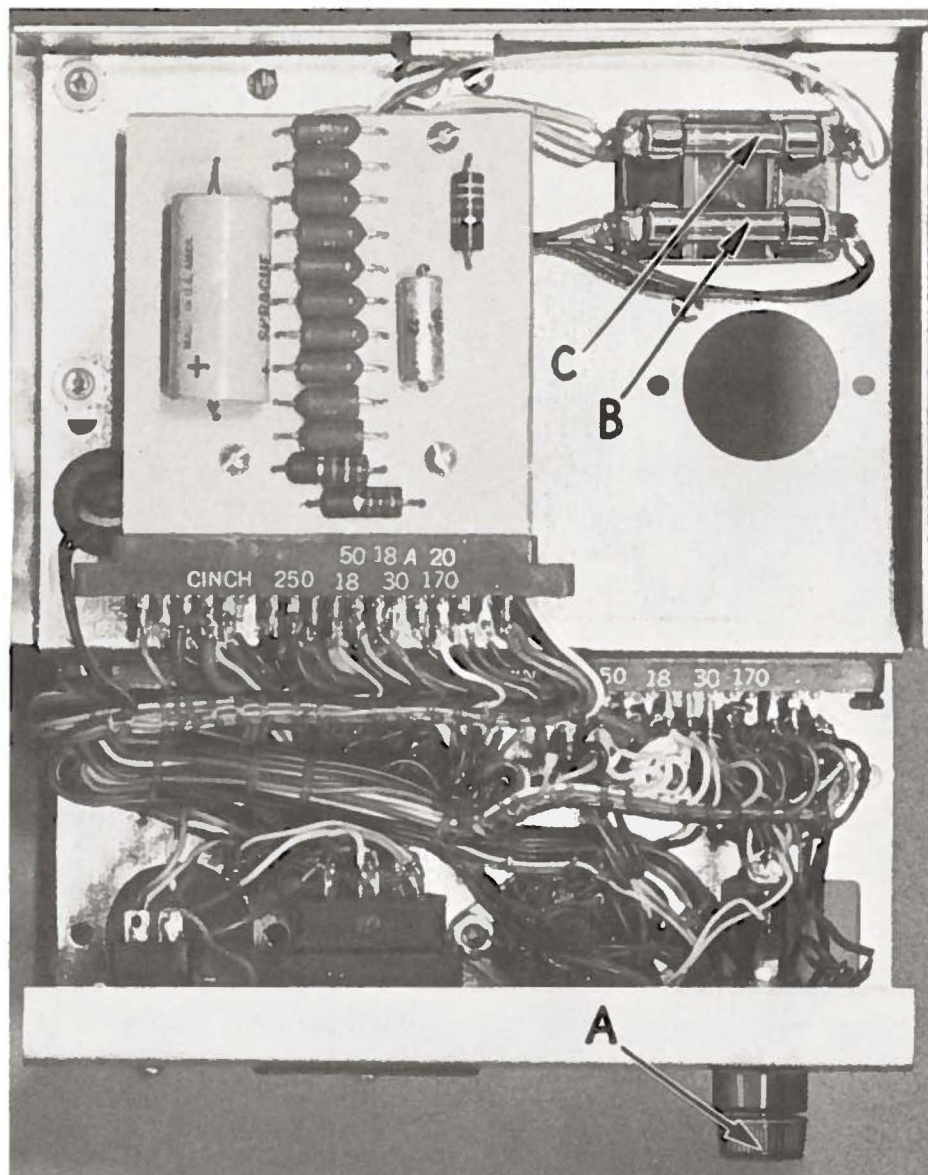

Fig. 22
The power pack incorporates a safety feature consisting of three (3) fuses of which two are of the slow blowing type and are rated 2 AMP at 250 V and the third a straight blow rated 5 AMP at 250 V. The 2 AMP fuse (A, Fig. 22) located in the front panel fuses the AC input for the primary winding of the transformer as well as the input to the full wave rectifier. The 2 AMP fuse (B) located under the chassis fuses the output side of the full wave rectifier for the auxiliary motor. The 5 AMP fuse (C) located under the chassis fuses the output side of the rectifier for the cutter solenoid, thread wiper solenoid (30 VDC) and the relay coil control circuit (24 VDC).